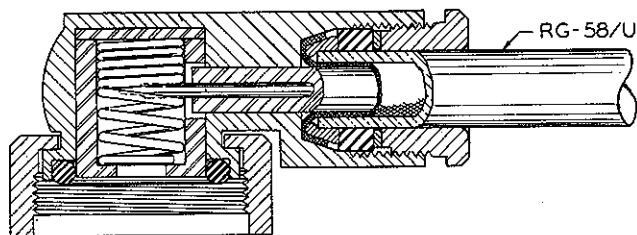
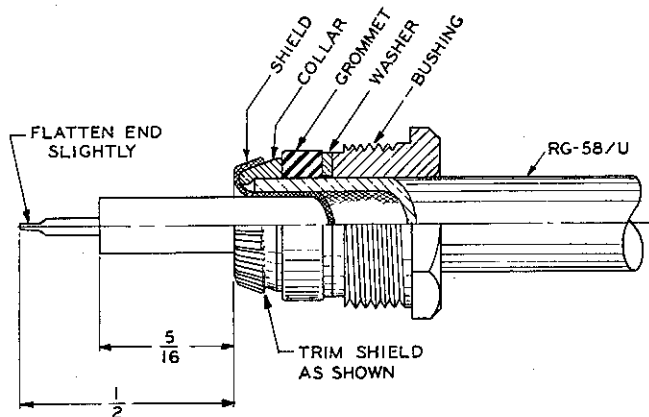

Fig. 5-2. Connector, Plug (D-C Plug P-101)
Fig. 5-3. Cable Service For Connector, Plug (D-C Plug P-101)
(1) High impedance phones may be bridged across the d-c meter, most conveniently by cutting into the long d-c cable W-102, or by using the d-c plugs P-101 from this cable together with other cables of RG-58/U made up for this purpose. Refer to Figs. 5-2, 5-3 for details of the plugs and of cable service, which does not require soldering.
(2) If an audio coupling capacitor, of .01 to 0.1 mfd. value, is used in series with the phones, the power calibration will be unaffected by the d-c shunting action of the phones.
(3) Higher audio signal level is available by connecting phones only to J-103 (i.e. d-c meter disconnected). However, where possible, it is preferred to bridge the phones across the meter.
(4) In all cases, connect an rf bypass capacitor, 100 to 500 mmf button mica, across the d-c cable (the wattmeter side) at the point where the center conductor emerges from the shield. Keep leads very short, or eliminate by soldering cable conductors directly to the bypass condenser terminals. While in most cases this precaution would be unnecessary, it would give additional protection to the crystal for occasional moments when stray voltage could be externally impressed across the phone terminals.
d. D-C PLUGS - CABLE SERVICE - Fig. 5-2 shows construction of the d-c plug P-101. Fig. 5-3 shows proper service of RG-58/U cable for these plugs. To remove cable from this plug unscrew the bushing and pull cable out. The center conductor of the cable makes tight contact between turns of the coil spring when assembled. For easiest assembly of cable to plug, flatten the end of center conductor as shown on Fig. 5-3, and align the resulting chisel point with turns of the spring while pushing in the serviced cable.
(1) The resistance to ground measured at D-C Jack J-103 indicates the insulation resistance of both voltmeter circuits. This resistance should be over 20 megohms. Low insulation resistance probably indicates moisture within the voltmeter housing. The various jacks and the joint between frame and cover castings are not hermetically sealed.